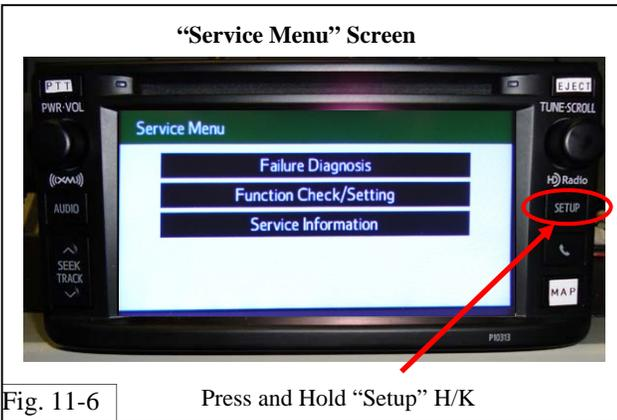

Fig. 11-6
- 2) The Service Menu screen will appear (Fig. 11-6).
- 3) With the Service Menu screen shown, press and hold the "SETUP" H/K (Fig. 11-6). Wait for the radio to restart, then release "SETUP" H/K.